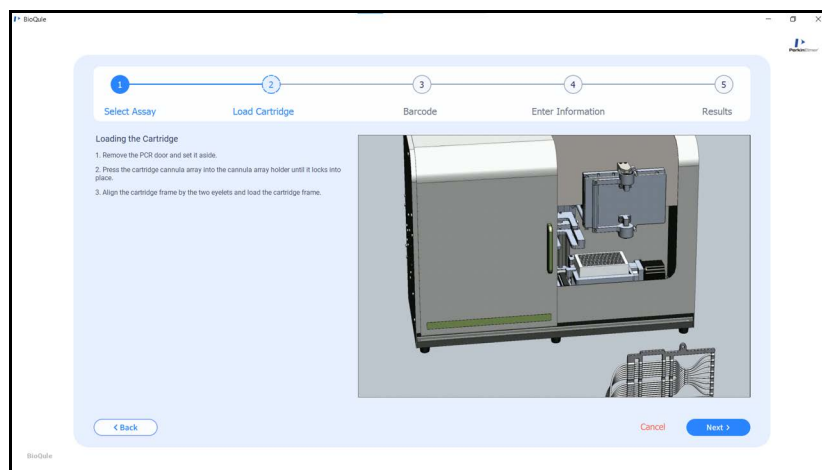

Figure 15. Load Cartridge Window
- 5 Click the **Next** button. The Load Cartridge window opens as shown in Figure 15.